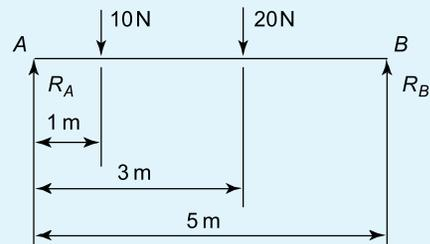

Figure 5.34
3. With reference to Figure 5.34, the clockwise moment about A is:
4. The force acting at  $B$  (i.e.  $R_B$ ) in Figure 5.34 is:
5. The force acting at  $A$  (i.e.  $R_A$ ) in Figure 5.34 is: